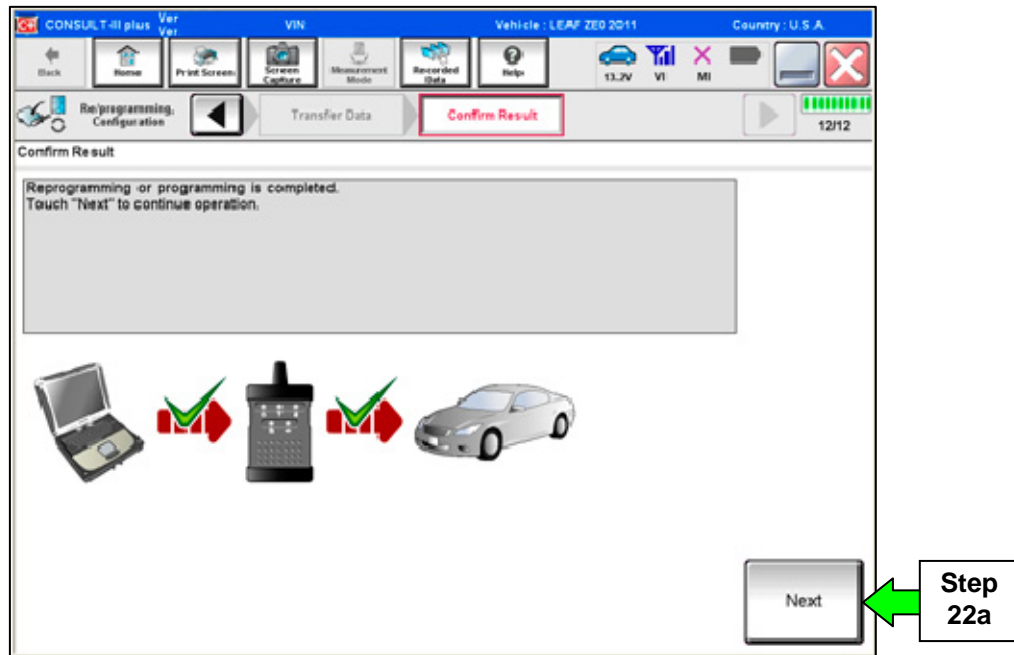

Figure 17
22. When the screen in Figure 17 appears, reprogramming is complete.
**NOTE:** If the screen in Figure 17 does not display (reprogramming is not complete), refer to the information on page 14